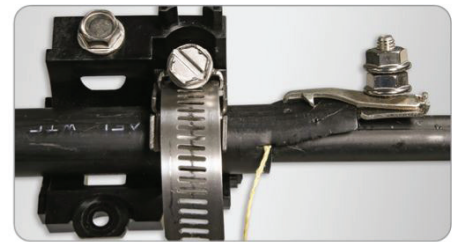

Figure 42
2. Armored WTC sheath will end at the CAU sheath end location (Figure 42).
2. If cable is armored, a tab should be left for the ground clamp. The tab should be past the hose clamp (Figure 42).